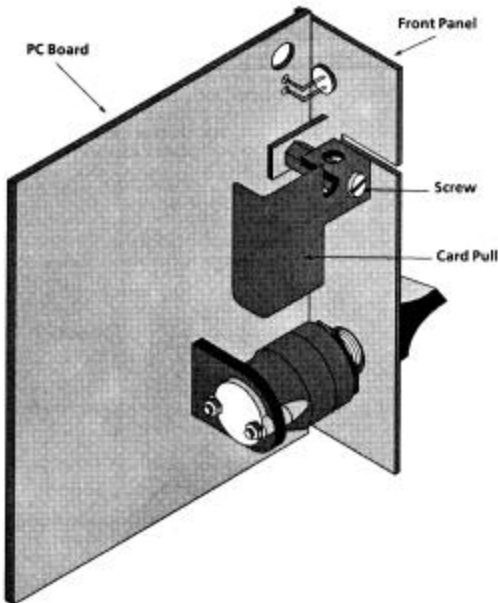

Figure 2-5. PC Card Module
2. Pull the card pullers on the PC module to slide the PC card out through the front of the Data Shelf (see Figure 2-5).